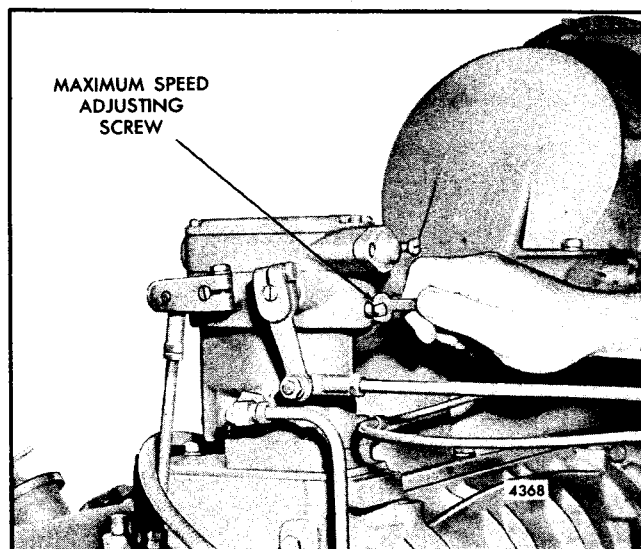

Fig. 10 - Adjusting Maximum No-Load Engine Speed
6. Loosen the lock nut on the maximum speed adjusting screw (Fig. 10) and turn the screw out until 5/8" of the threads are exposed.
2. Turn the maximum speed adjusting screw (Fig. 10) in until the screw contacts the throttle linkage internally, limiting the maximum speed of the engine at 8% above the rated full-load speed.